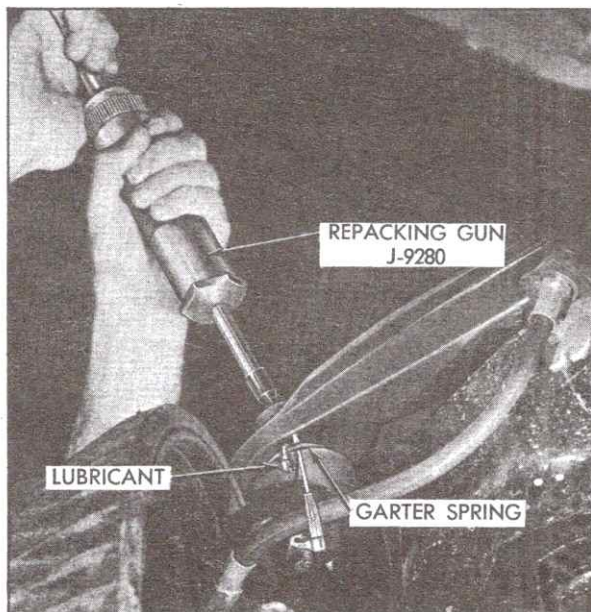

Fig. 3-11 Repacking Front Upper Spherical Joint Seal
13. Using Repacking Gun, J-9280, and Fitting, J-9280-5, apply lubricant until approximately two teaspoons of lubricant escapes under the seal at the screwdriver, Fig. 3-11. Any water trapped in the joint should be forced out by the fresh lubricant.